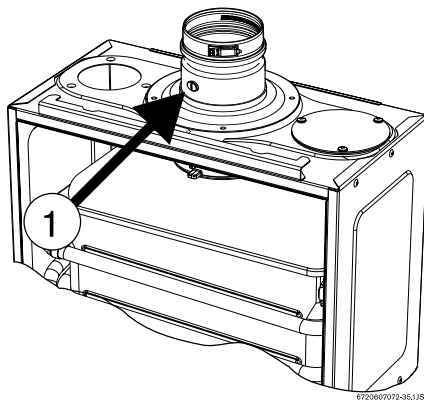

Fig. 41
- ▶ Loosen screw 1 (Fig. 41).
- ▶ Insert CO₂ analyzer into measuring port (Fig. 41, pos. 1).